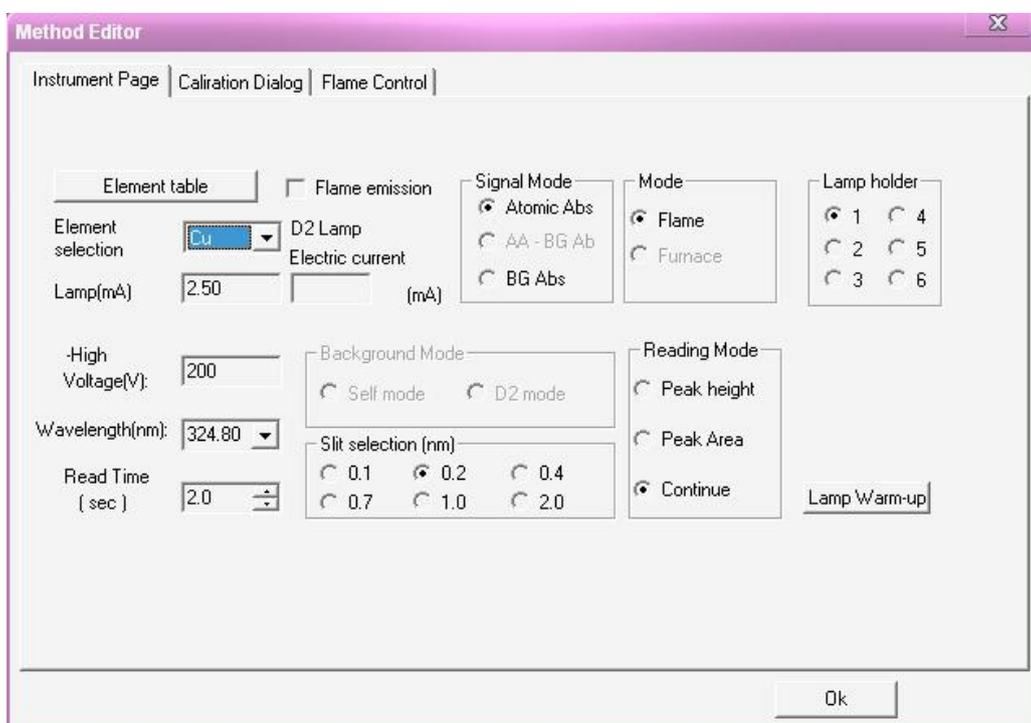

Figure 5-6
3. Input the appropriate "Read Time" in the "Instrument Page", select appropriate "Reading Mode" (Figure 5-6)